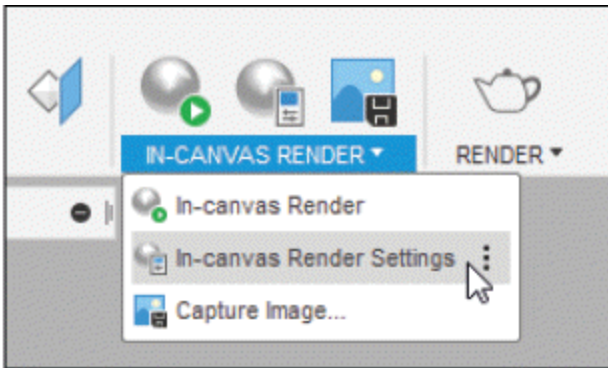

Figure-15. In-canvas Render Settings tool
- Click on the **In-Canvas Render Settings** tool from **IN-CANVAS RENDER** drop-down; refer to Figure-15. The **IN-CANVAS RENDER SETTINGS** dialog box will be